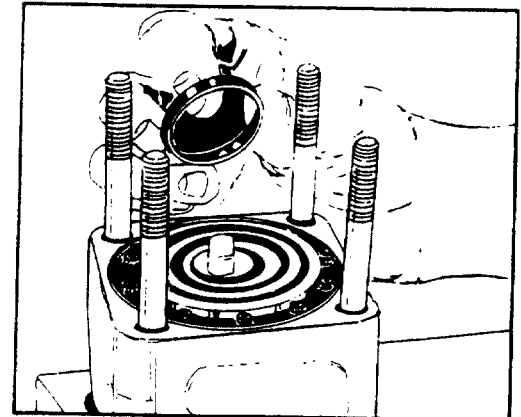

FIGURE 74.
- 26. Grease the new commutator seal (19) and place it into the commutator cover (20) seal groove. The rubber portion (the softer side) of the seal with the yellow mark must be placed into the seal groove. See figure 74.